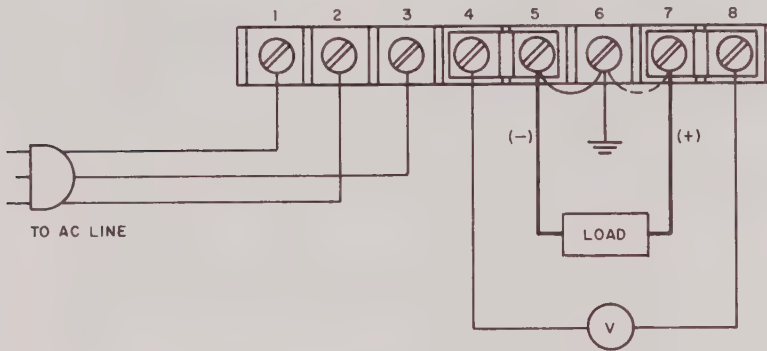
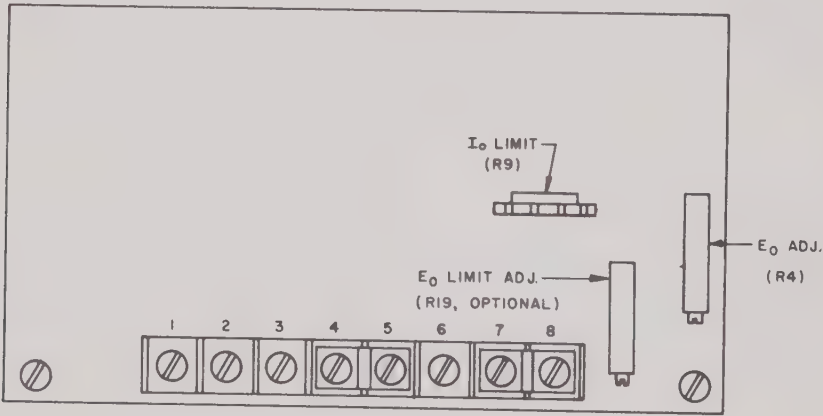

FIG. 3-1 LOAD CONNECTION AND OUTPUT MEASUREMENTS
FIG. 3-3 LOCATION OF INTERNAL ADJUSTMENTS
- 3-2 The load should be connected to the barrier-strip terminals as shown in FIG. 3-1. The load connecting wires should be as heavy gage as practicable, since voltage drops due to load current flow will influence regulation performance directly at the load. Specified regulation performance must be measured as indicated in FIG. 3-1 and as described in detail in Section V of this manual.
- 3-7 The DC output voltage can be adjusted  $\pm 10\%$  around the nominal rated value. A multiturn trimmer potentiometer is provided for this purpose on the printed circuit board. (Refer to FIG. 3-3) Connect the power as indicated in FIG. 3-1, connect to AC power line and adjust "E0 Adj." as desired. The accuracy of the adjustment is limited only by the accuracy of the connected voltmeter.
- 3-9 The output current of the BKF Power Supply is factory-adjusted to limit at approximately 110% of the maximum rated value. If a lower limit is desired, it may be readily adjusted to any value between 30% and 110% of the maximum rated output current. A single-turn potentiometer (R9, "I0 LIMIT") located on the printed circuit board (Refer to FIG. 3-3) is provided for this purpose. A convenient way to set the current limit is as follows:
- a) Set up the power supply as shown in FIG. 3-1 and adjust the resistor load to draw the desired output current. Monitor the output with an oscilloscope (parallel to the load) having a vertical sensitivity of at least 0.1mV/cm.
5-6 BKF Power Supplies have their internal controls located at the printed circuit board (See FIG. 3-3). The adjustment procedures for the voltage calibration potentiometer, the current limit control, and the (optional models with suffix "V") voltage limit control are described in Section III. (See paragraphs 3-6, 3-8 and 3-10)